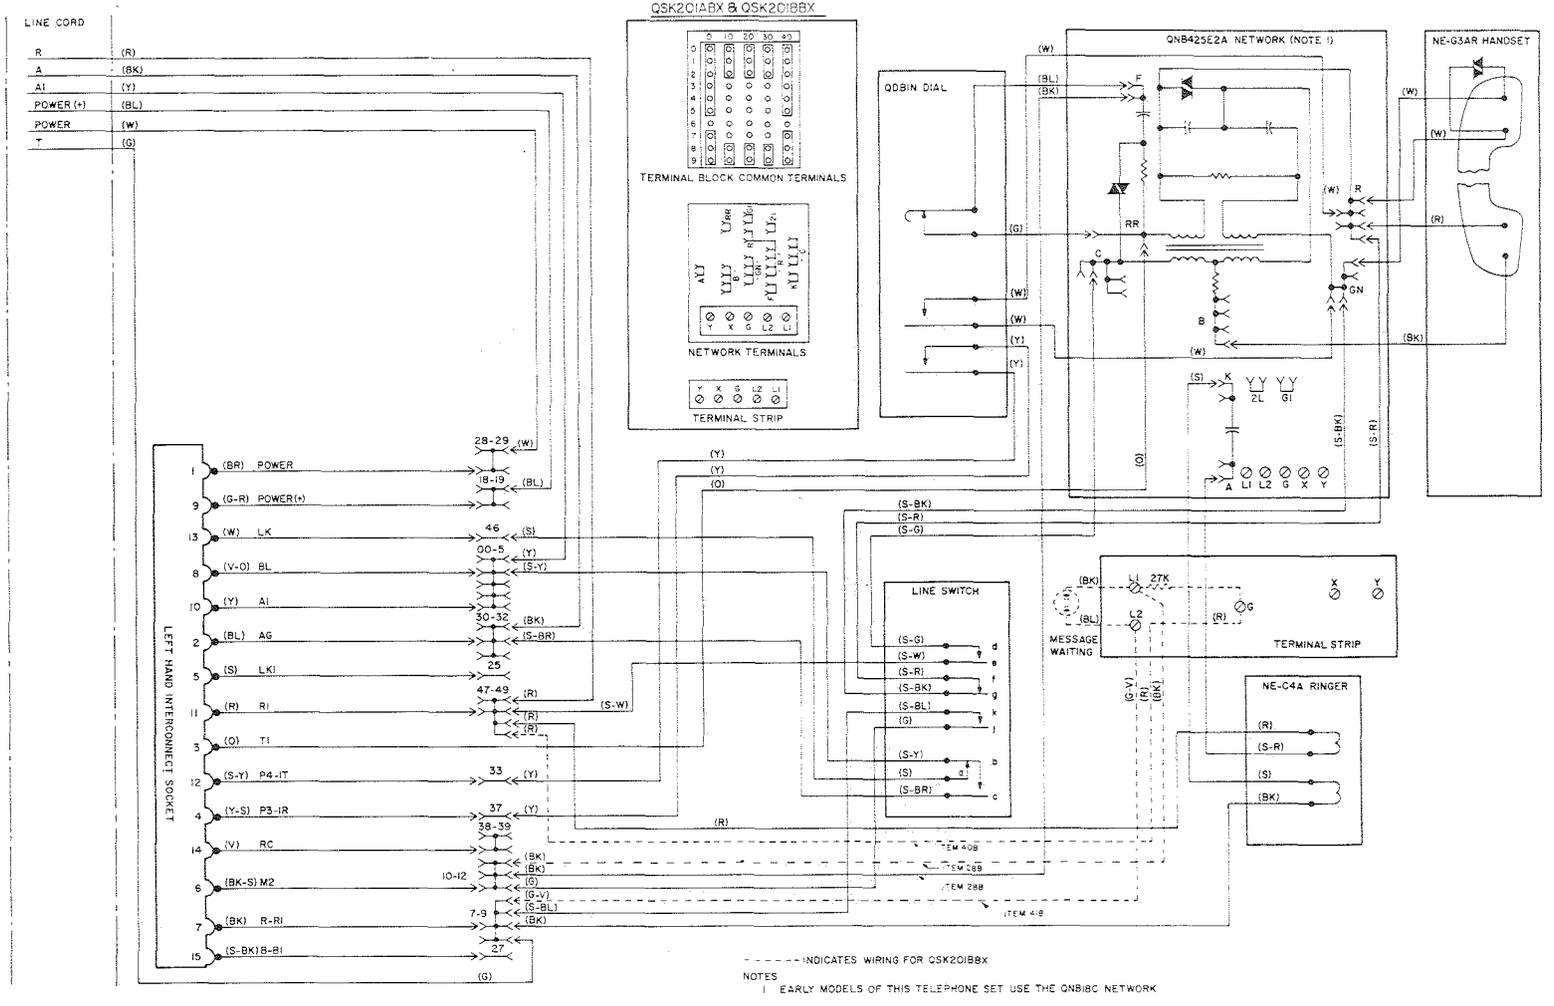

Fig. 3 — Schematic Diagram of QSK201AB and QSK201BB-Type Telephone Sets
2.01 The following features are subscriber option. Refer to the schematic diagrams (Fig. 3 and 4) and Tables B through E when converting the telephone set for a particular option as specified below.